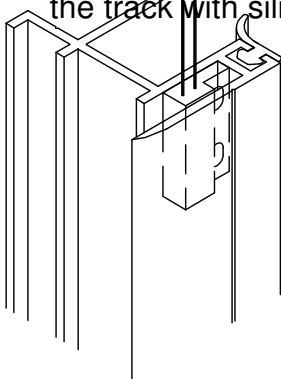

Fig. 13
- a) Place the end of curtain travel proximity switch 2 3/4" from the top of the track to the bottom of the switch and 2 3/4" from the bottom of track to the top of the proximity switch. This distance should be increased to 3 1/4" when a bottom rail extension is used and 4 1/4" for the tall bottom rail. See Fig. 13 for an example of where the proximity switch is located with conventional track. Temporarily install the switch in the track with silicone or some other temporary substance.